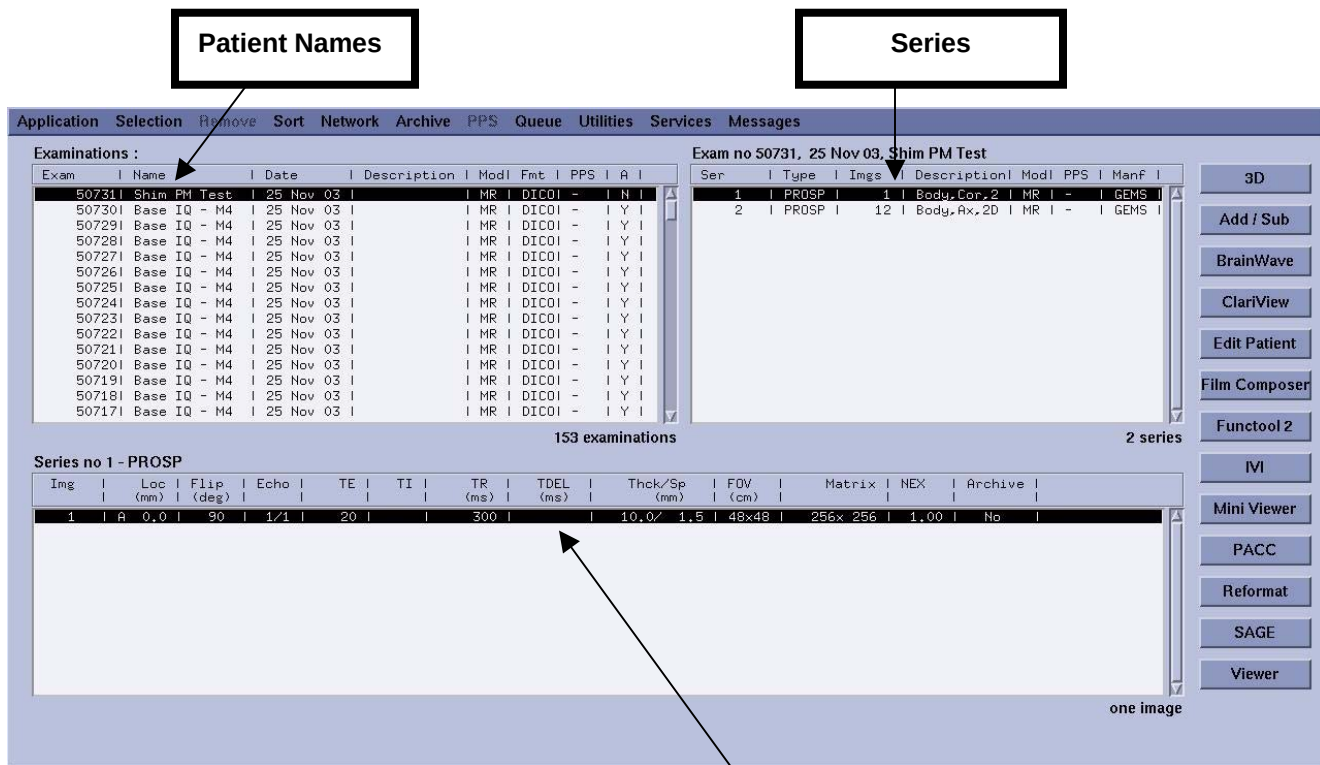
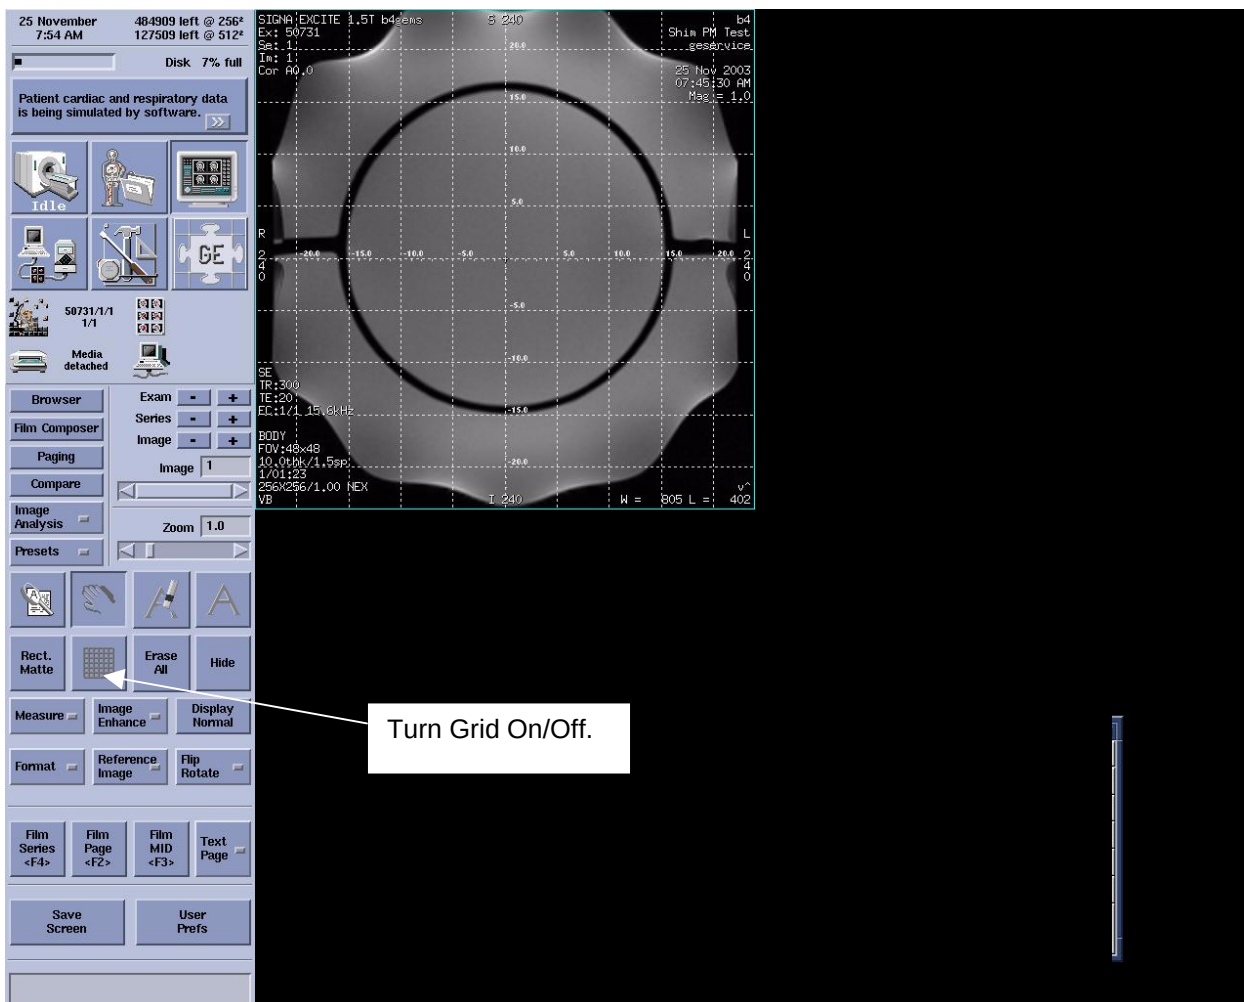

Figure 8
Figure 9
11. To access the browser, click the Browser icon shown in Figure 7. The browser window (shown in Figure 8) will launch.
12. Locate the image created when the "LVshim Localizer, Cal:Syst" Scan was performed in the browser. Find the Patient name in the Examinations column (left column) by looking for the name entered in Step 5. (This example used *Shim Pm Test*.) Click on "Shim Pm Test." The scans will now display in the right column. See Figure 8.
13. Click on the appropriate series in the right column. If a new name was used in Step 5, there will be only one series displayed in the right column (one image with the description Body,Cor,2) at this time. See Figure 8.
14. Double click on the image line in the lower window (shown in Figure 8) to automatically open the image shown in Figure 9.
15. It is important to center the LVShim phantom in the Magnet bore. As seen in this example, make sure the Phantom is moved slightly toward the front of the Magnet (toward the Table). See Figure 9. The goal is to overlap the center of the phantom and the display grid.